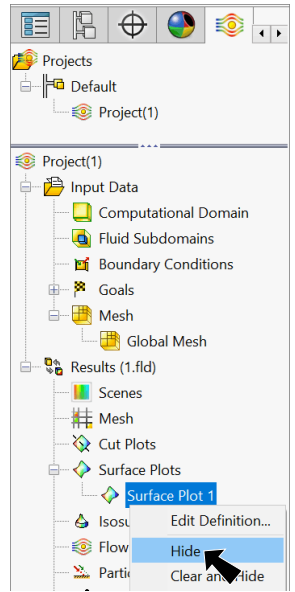

Fig. 20
- Step 4. After viewing the Surface Plot, expand **Results** in Flow Simulation tree and expand **Surface Plots**. Right click **Surface Plots 1** and click **Hide**, **Fig. 20**.